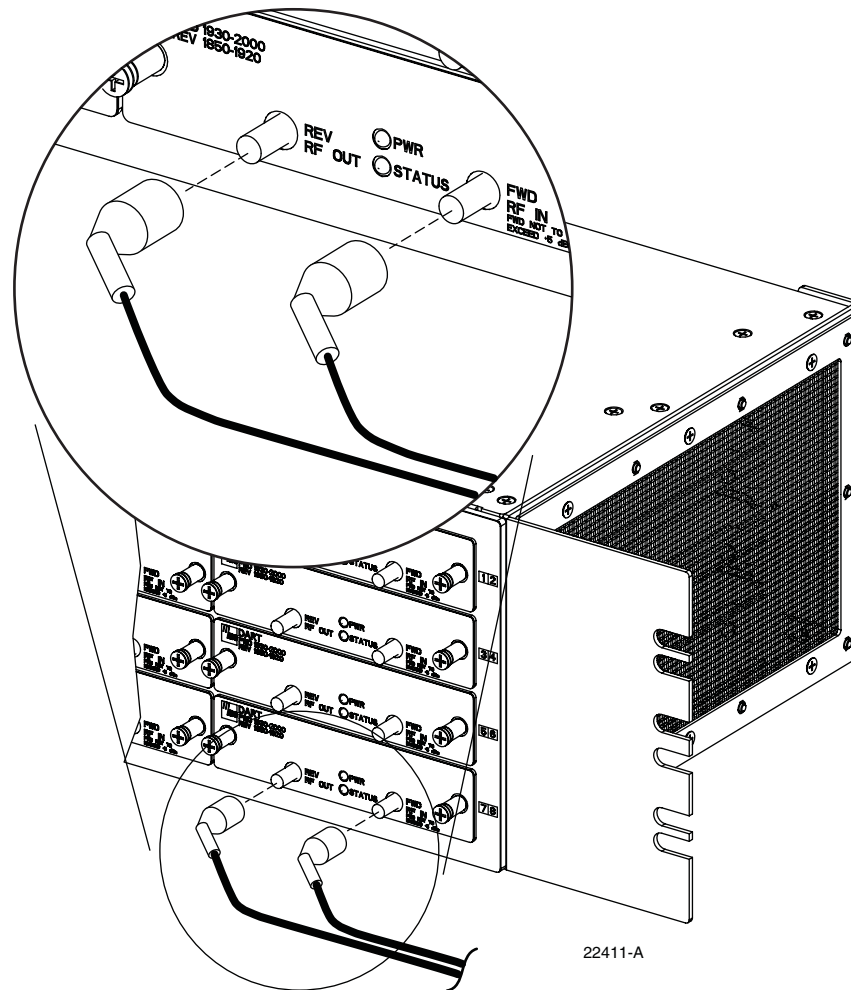

Figure 12. Forward and Reverse Path Coaxial Cable Connections
5. Connect the forward path cable to the **FWD RF IN** connector on the HU DART front panel as shown in Figure 12.
6. Connect the reverse path cable to the **REV RF OUT** connector on the HU DART front panel (see Figure 12).